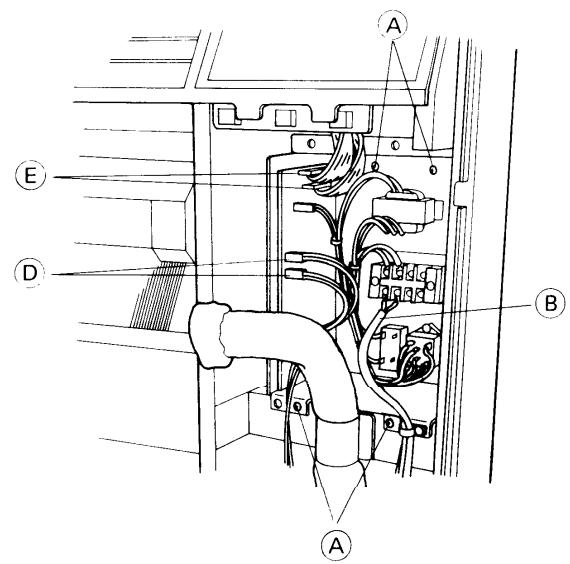

Fig. 4
- ③ Remove interunit power line (B) from the terminal board.
④ Remove the connector (D) of the thermistor lead wires.
⑤ Remove the connector (E) of controller lead wires.
⑥ Remove the clamps fixing the lead wires to remove the electrical component box easily.
⑦ Remove the four installation screws (A) of the electrical component box, and remove the electrical component box. Fig. 4